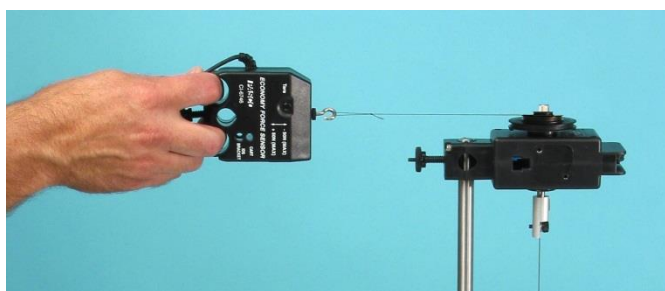

Figure 7: Measuring the Torque
3. Hold the force sensor parallel to the table at the height of the large pulley and prepare to pull it straight out as shown in Figure 7.